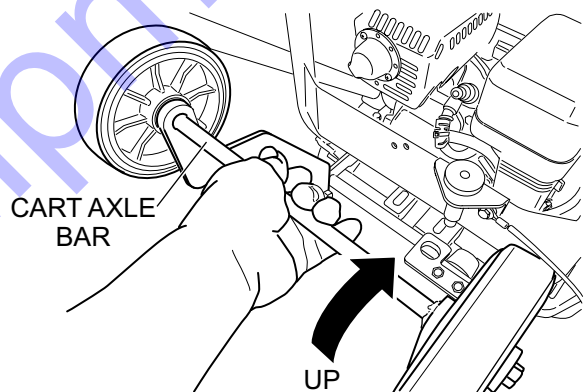

Figure 16. Positioning Axle Cart Bar (Stowed)
- With your hand, grab hold of the cart axle bar (Figure 16) and pull upwards. Continue pulling cart axle upwards until cart is secured to guard hook by the automatic locking pin.